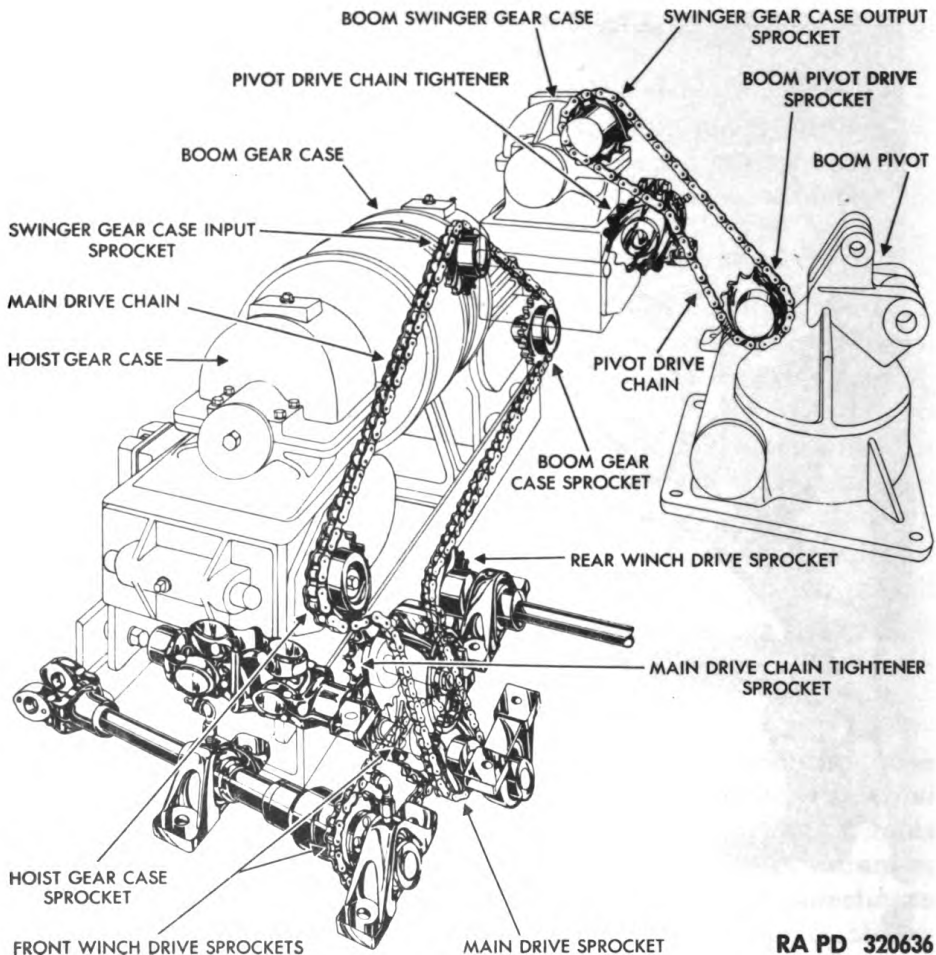

Figure 75 — Main Drive Chain
b. **Install Main Drive Chain.** Lay the chain out and pick a point on the chain that divides it two-thirds and one-third. Keeping this point, set the chain on the swinger gear case input shaft sprocket with the one-third end to the left of the crane. Run this end around the hoist gear case sprocket and over the rear winch lay shaft sprocket, and then down and around the main drive sprocket. Taking the opposite end of the chain at the swinger gear case sprocket, run it around the boom gear case sprocket, then left and over the chain tightener sprocket, and then through the crane frame base and around the main drive shaft sprocket. Join the ends of the chain, and install the link plate and cotter pins (fig. 75).